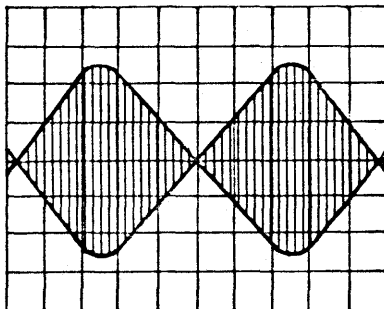

Figure 4-7. Cat's Eye Pattern for Radial Alignment
- f. Observe the read signal (see figure 4-7). Adjust the vertical scale so the peak amplitude of the larger lobe is five major divisions (5 cm) and note the amplitude of the smaller lobe.